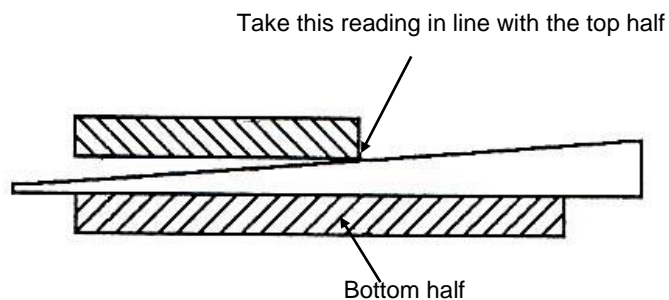

FIG 29.
- When the bottom part of the component protrudes under the top part, the reading must be taken in line with the top face. (Fig 29)